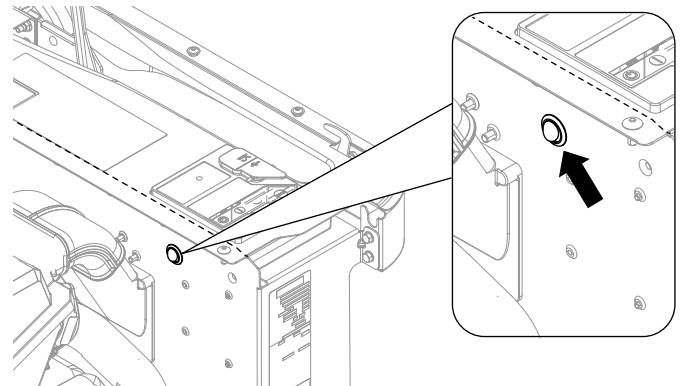

Figure 7 - Switch Installed on Divider Panel
3. See Figure 7. Insert switch into hole.